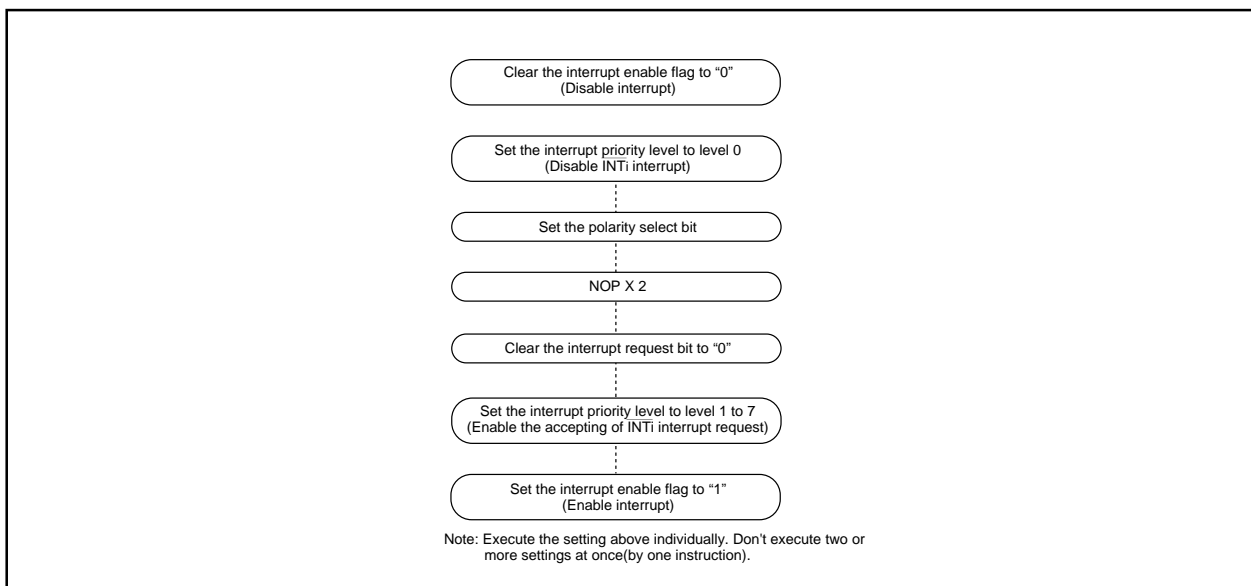

Figure 1.1.1. Switching condition of INT interrupt request
2. When the polarity of the $\overline{\text{INT}}_0$ to $\overline{\text{INT}}_5$ pins is changed or the interrupt request cause of the software interrupt numbers 8 to 9 is changed, the interrupt request bit is sometimes set to "1". After these changes were made, set the interrupt request bit to "0". Figure 1.1.1 shows the procedure for changing the $\overline{\text{INT}}$ interrupt generate factor.